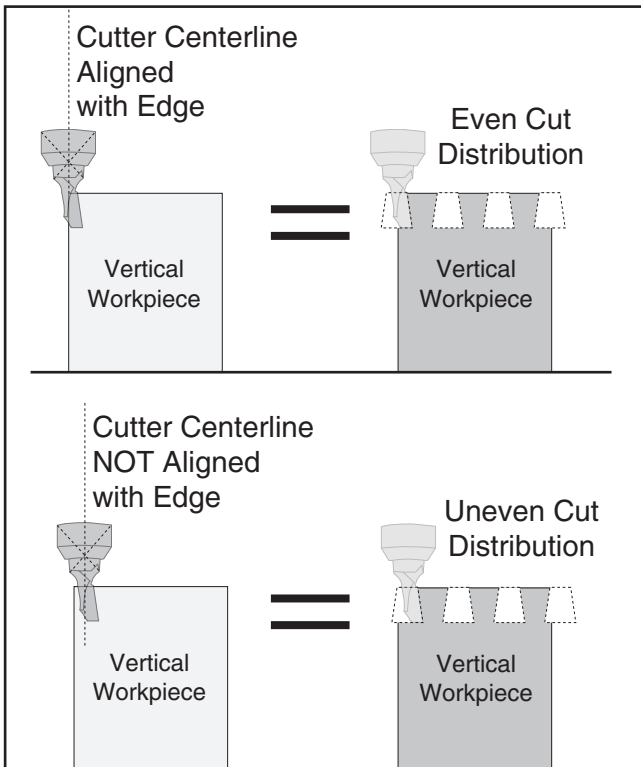

Figure 28. Aligning cutter start location with the vertical workpiece.
- Align the left-hand edge of the vertical workpiece with the centerline of the cutter when the tracer pin is in the "in" or cutting position. This position will make the first cut in the vertical workpiece half the width of the cutter. **Figure 28** illustrates this concept.